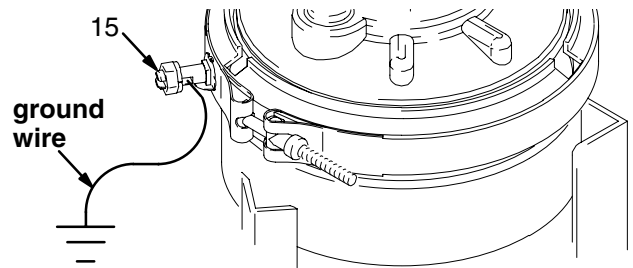

Fig. 2
*The polypropylene leak detectors are **not** conductive. Attaching the ground wire to the lug (15) grounds only the clamp (see Fig. 2). When pumping conductive flammable fluids, **always** ground the entire fluid system by making sure the fluid has an electrical path to a true-earth ground.*
- **Leak detector:** Attach a ground wire to the grounding lug (15) as shown in Fig. 2. Connect the clamp end of the ground wire to a true earth ground. *To order a ground wire and clamp, order Part No. 222011.*